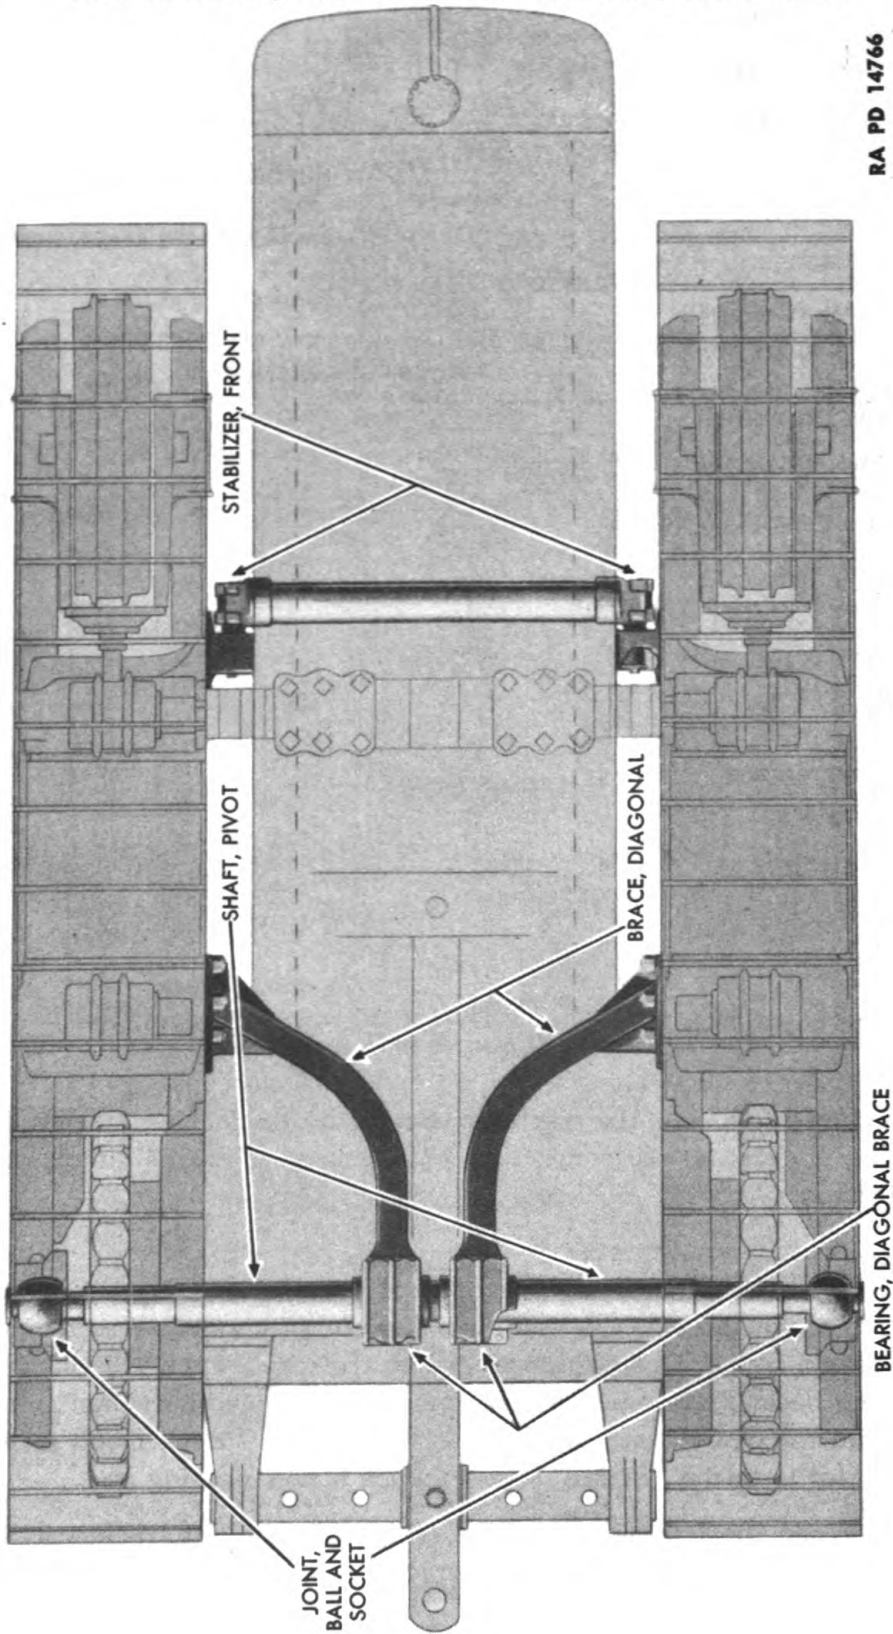

Figure 10 — Track Frame Construction for Stabilizing
9. TRACK FRAME CONSTRUCTION (fig. 10).